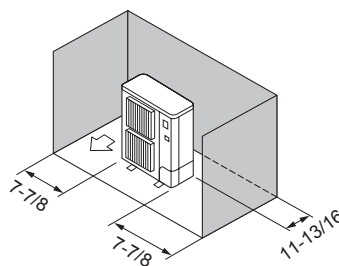

Fig. 2-7
③ Obstacles at rear and sides (Fig. 2-7)